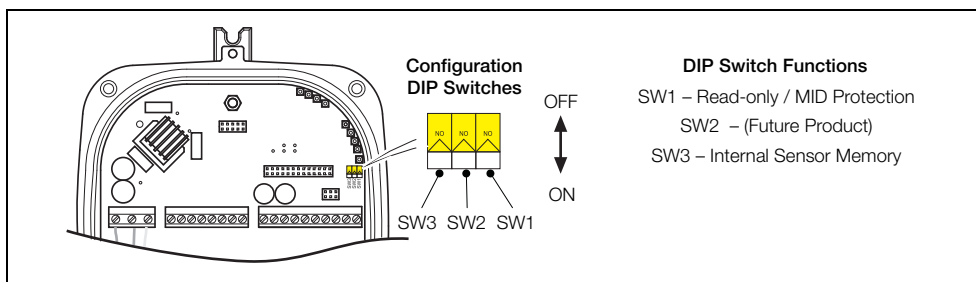

Fig. 3.20 Configuration DIP Switches
4. For high integrity / security installations, set DIP switch SW1 to the 'ON' (Read-only) position – see Fig. 3.20, page 22.
5. Align the transmitter cover with the housing and tighten the four cover screws (C) carefully.
6. For high integrity / security installations or where MID is required, fit anti-tamper seals to the security fixtures (D).
**Note.** If this screen is displayed on an integral transmitter, check that DIP switch SW3 is in the 'ON' position (refer to Fig. 3.20, page 22).
To correct this condition, set DIP switch SW3 to the 'OFF' position (refer to Fig. 3.20, page 22).